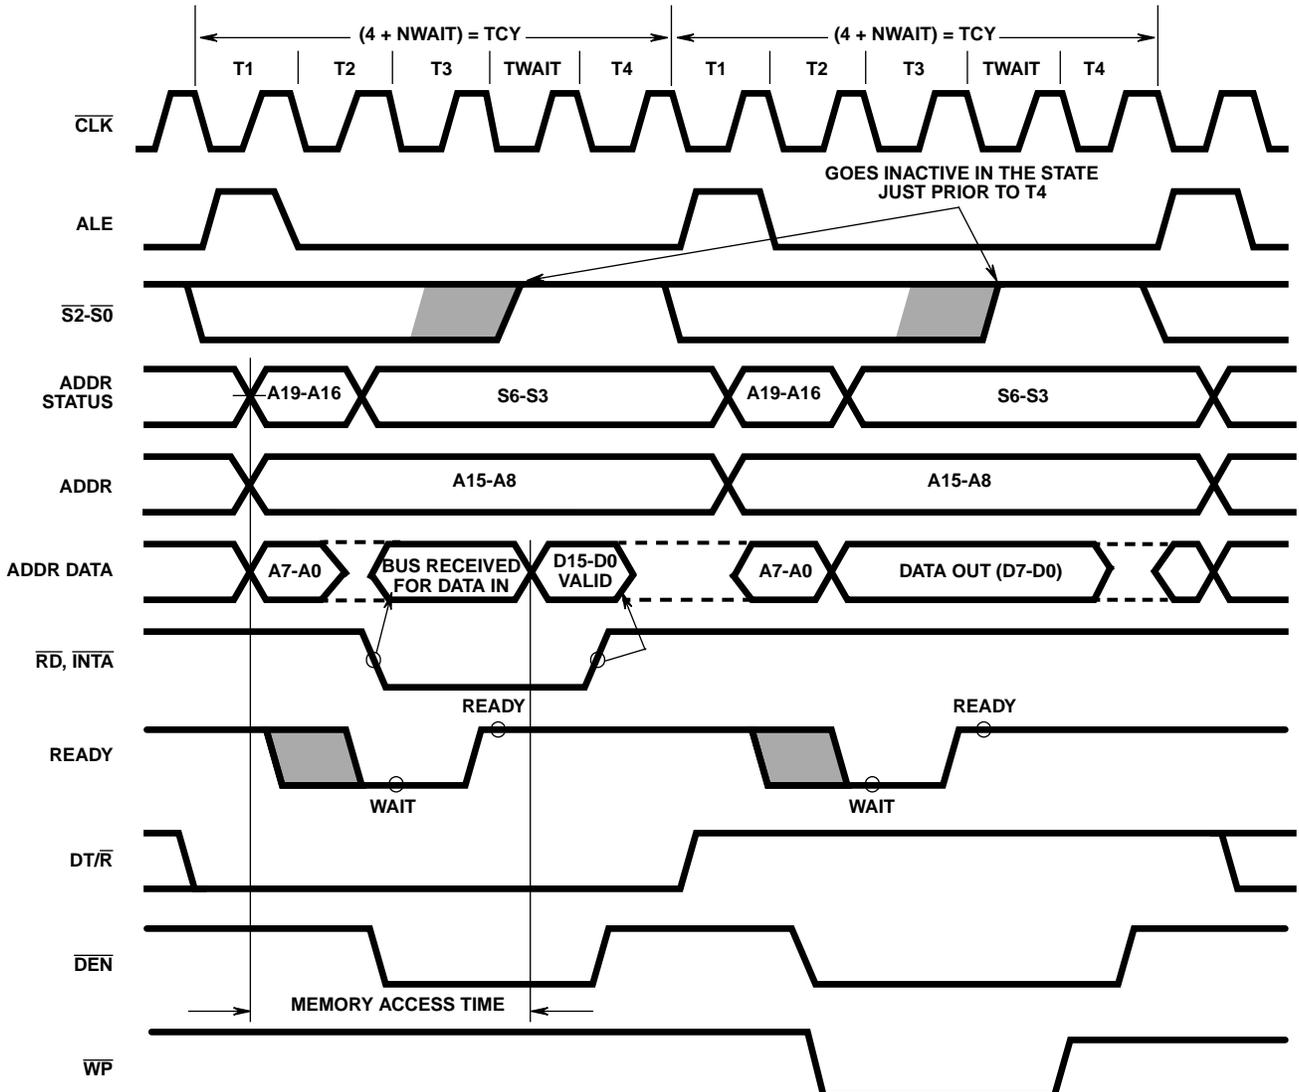

FIGURE 5. BASIC SYSTEM TIMING
Each processor bus cycle consists of at least four CLK cycles. These are referred to as T1, T2, T3 and T4. (See Figure 5). The address is emitted from the processor during T1 and data transfer occurs on the bus during T3 and T4. T2 is used primarily for changing the direction of the bus during read operations. In the event that a "Not Ready" indication is given by the addressed device, "wait" states (TW) are inserted between T3 and T4. Each inserted "wait" state is of
The read cycle begins in T1 with the assertion of the address latch enable (ALE) signal (see Figure 5). The trailing (low going) edge of this signal is used to latch the address information, which is valid on the address data bus (ADO-AD7) at this time, into the 82C82/82C83 latch. Address lines A8 through A15 do not need to be latched because they remain valid throughout the bus cycle. From T1 to T4 the  $\overline{IO}/\overline{M}$  signal indicates a memory or I/O operation. At T2 the address is removed from the address data bus and the bus is held at the last valid logic state by internal bus-hold devices. The read control signal is also asserted at T2. The read ( $\overline{RD}$ ) signal causes the addressed device to enable its data bus drivers to the local bus. Some time later, valid data will be available on the bus and the addressed device will drive the READY line HIGH. When the processor returns the read signal to a HIGH level, the addressed device will again three-state its bus drivers. If a transceiver (82C86/82C87) is required to buffer the local bus, signals DT/ $\overline{R}$  and DEN are provided by the 80C88.